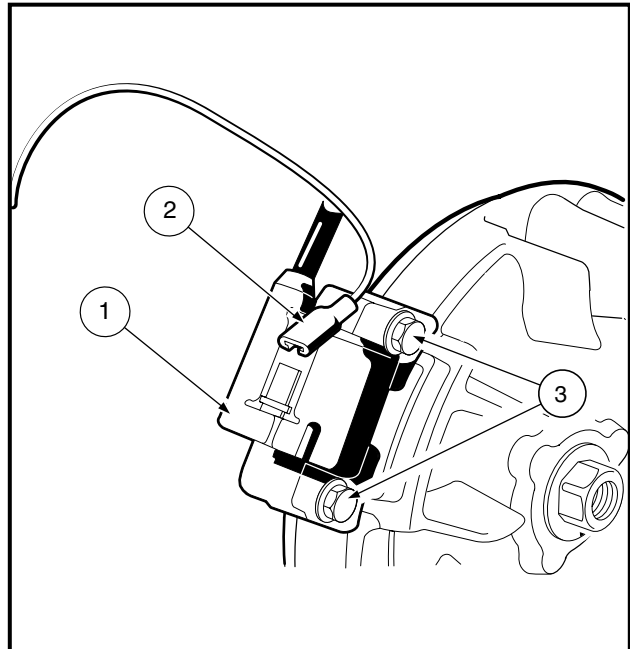

Figure 13-63 Ignition Coil
2. Disconnect the ignition coil (1) from its primary lead wire at the connector (2). Remove the two bolts (3) and take out the ignition coil (**Figure 13-63, Page 13-32**).